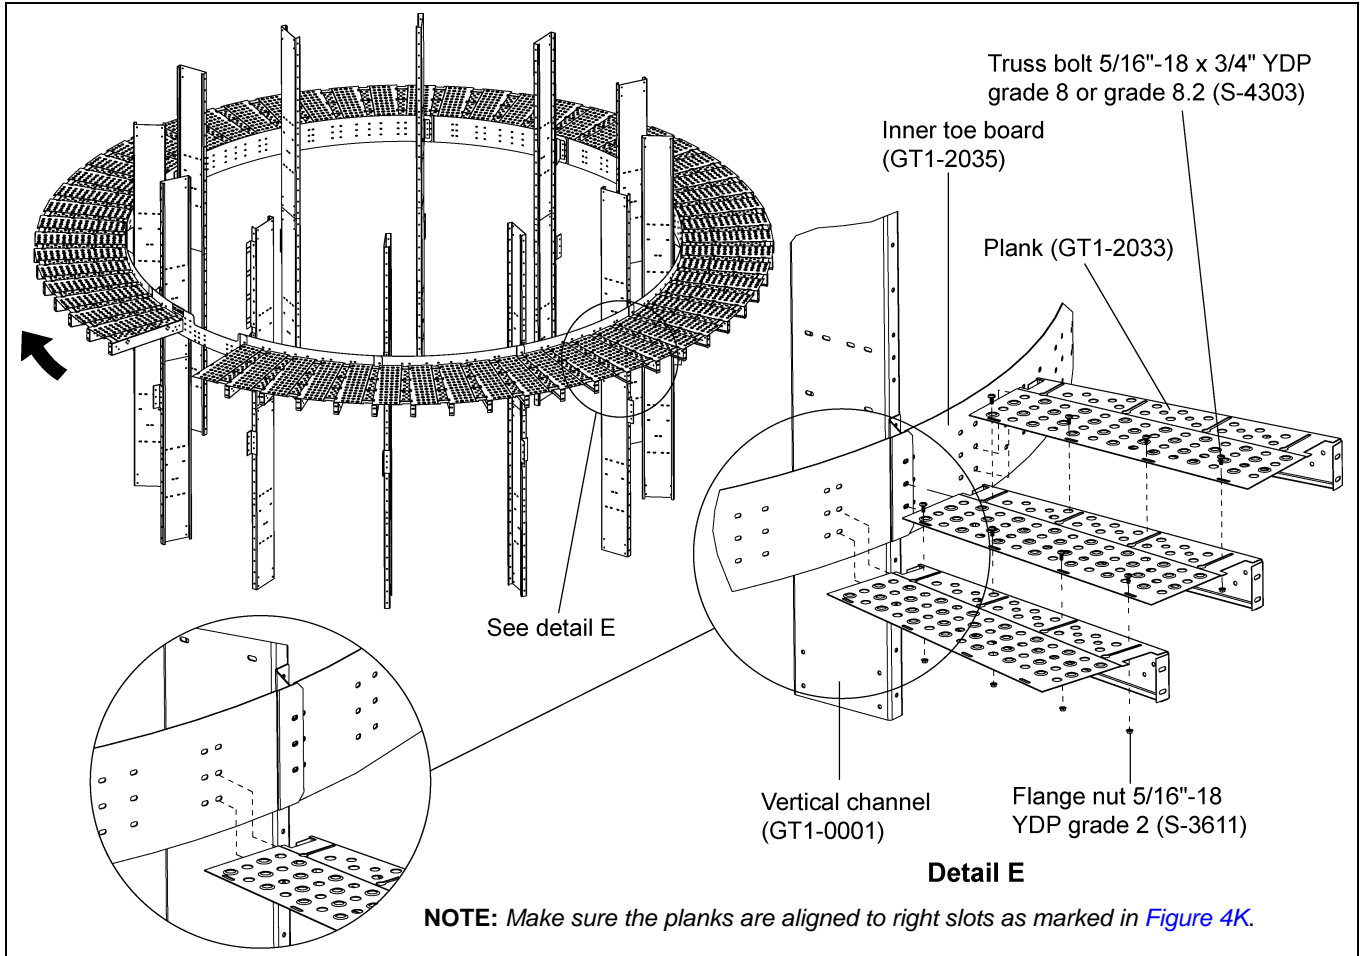

Figure 4J
1. Install planks around the dryer on inner toe board starting from ladder opening toe board (GT4-1465) as shown by arrow in the Figure 4J.
2. Planks (GT1-2033) are installed to bottom two (2) holes of the inner toe board (GT1-2035) using 3/8"-16 x 1" YDP grade 8 or grade 8.2 bolts (S-7927) and 3/8"-16 ZN grade 5 nuts (S-968). (See Figure 4J.)